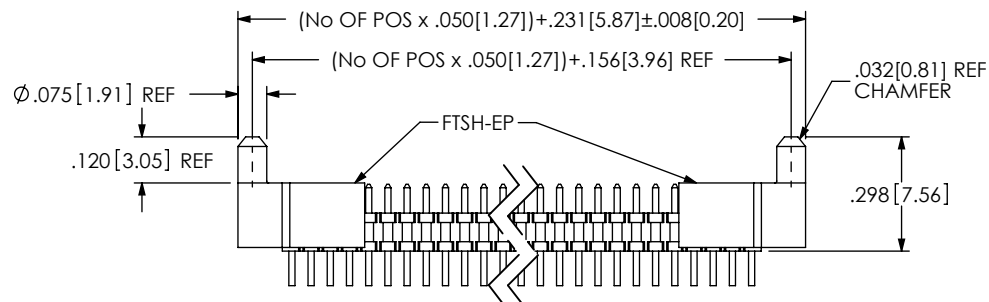

FIG 5
-EP: GUIDE POST (SEE FIG 5, SHT 2)